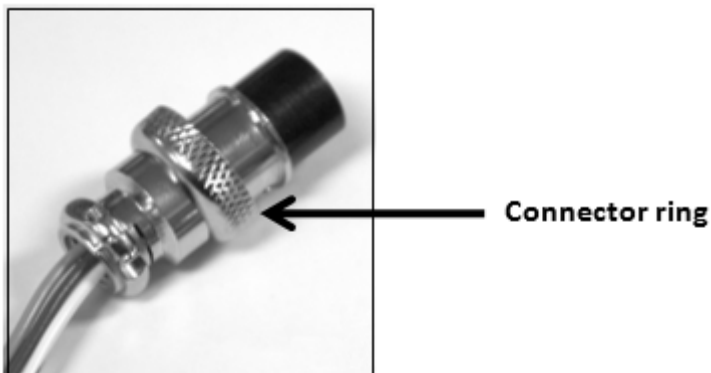

Figure 6 - Connector Ring
- (e) Secure the remote connector plug to the terminal socket by locking connector ring (Figure 6).